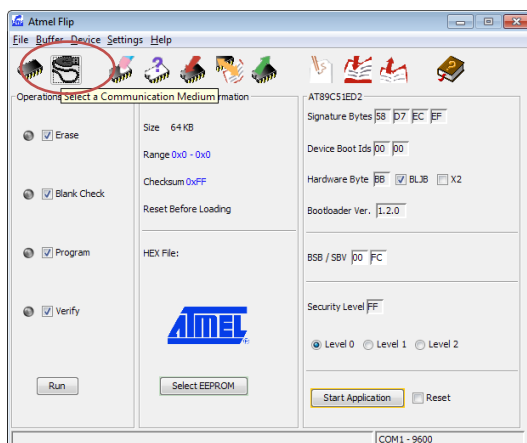
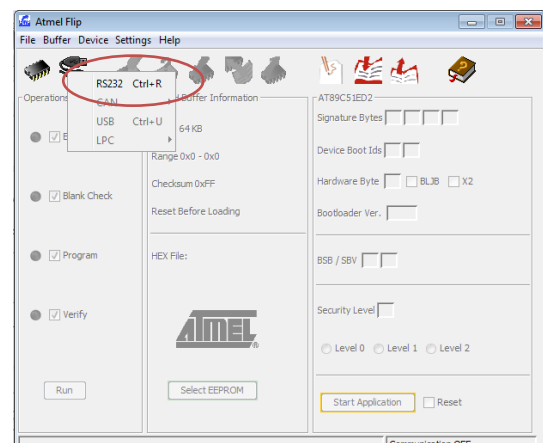

Figure 9 - Select a Communication Medium
Figure 10 - Select RS232
- 3) Once the appropriate device has been selected, the communication requires set up. This is done by selecting the 'Select a Communication Medium' icon, shown in Figure 9, and choose RS232 from the drop down menu, Figure 10.